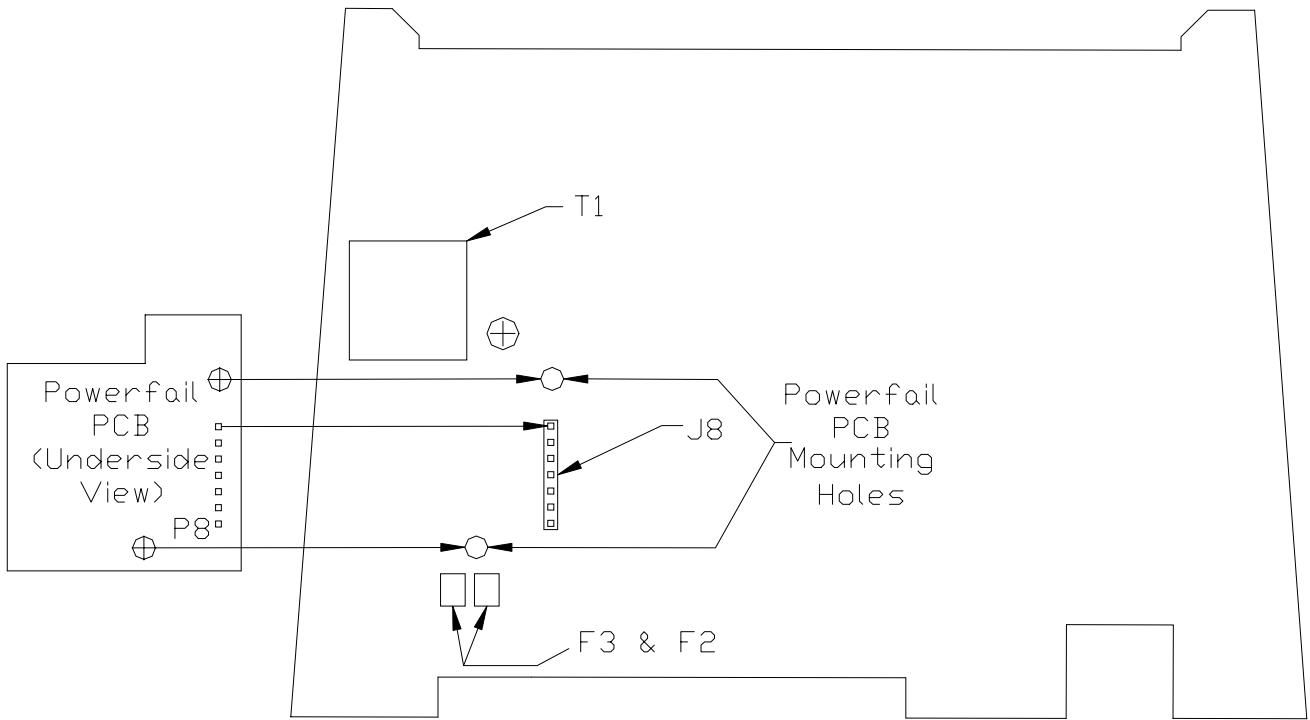

Figure 6.
10. Install the powerfail module in the main logic PCB. See figure 6 and 7 on the next page.